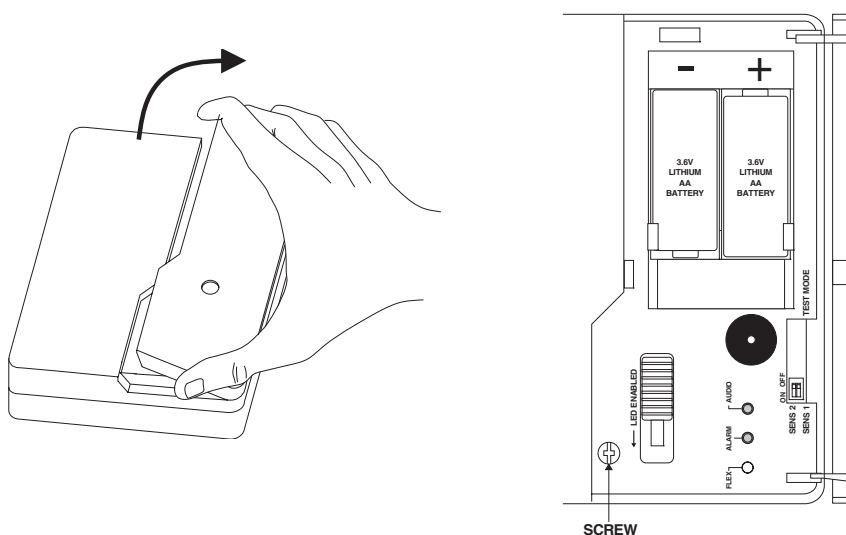

Figure 2. Opening Cover to Locate and Remove Cover Screw
1. Open the sensor door and remove the cover screw using a Phillips screwdriver (see Figure 2).